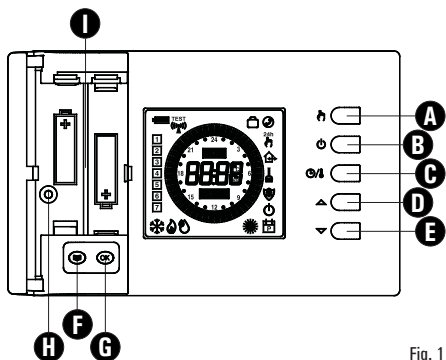

Fig. 1
- 6 Insert the batteries in the battery compartment (I in Fig. 1); see paragraph 'HOW TO INSERT/REPLACE THE BATTERIES'.